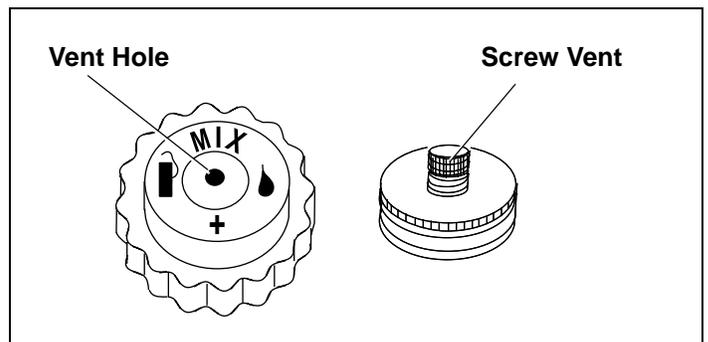

Figure 7. Fuel Cap Vent Hole and Optional Screw Vent
3. Be sure that screw vent fuel fill cap, if present (see equipment manufacturer's instructions) is open. See Figure 7.
- Close air vent screw on fuel fill cap, if present (see equipment manufacturer's instructions). See Figure 7 on page 5. Afterward, continue reading instructions below.